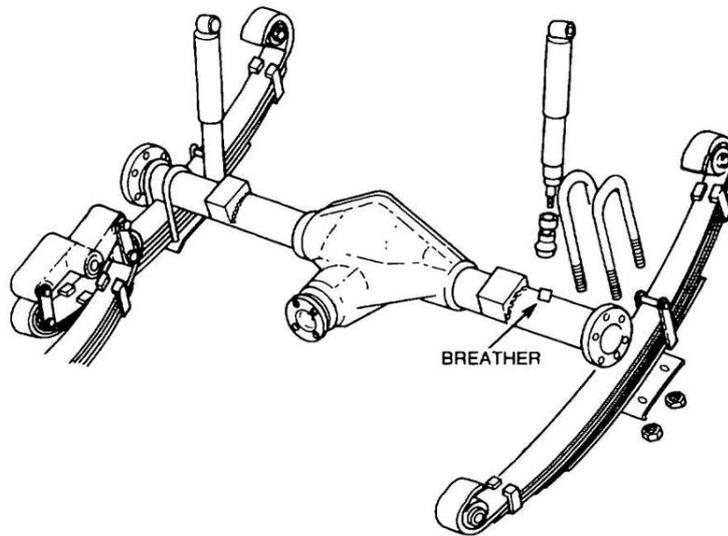

Figure 101 Removal of the Rear Axle Breather
- d. Remove the banjo bolt securing the breather hose to the rear axle (Figure 101) and discard the sealing washers. Remove the zip-clamps that secure the breather hose to the axle case.